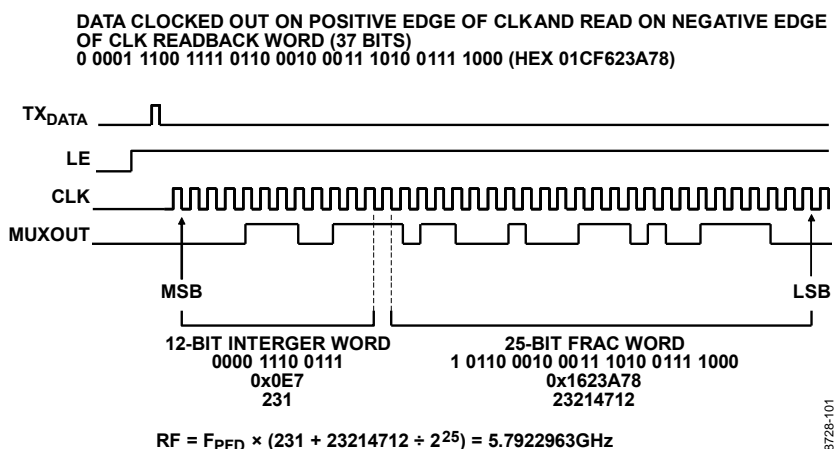

Figure 43. Reading Back Single Bits to Determine the Output Frequency at the Moment of Interrupt
The mechanism of how single bits are read back is shown in Figure 43.
- Frequency readback (as described at the beginning of the Interrupt Modes and Frequency Readback section and Figure 43)